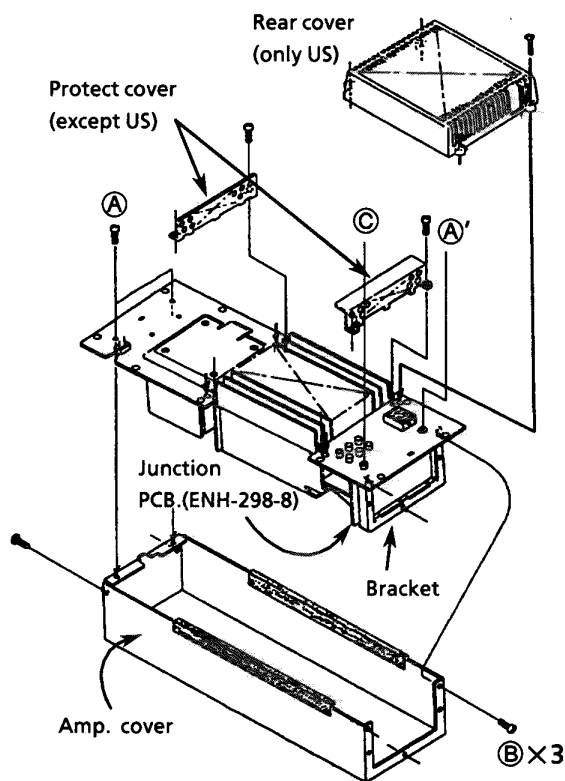

Fig.1
2. Remove 2 screws (A) and (C) fastening the bracket. (See fig.1)
4. Disconnect CN202 and CN303 to disassemble both the bracket and Junction PCB. (ENH-298-8) together. (See Fig.1.)
(Fig. 1)